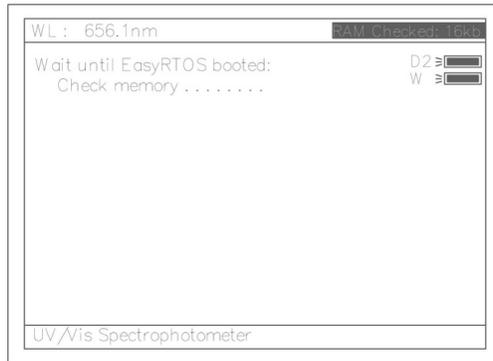
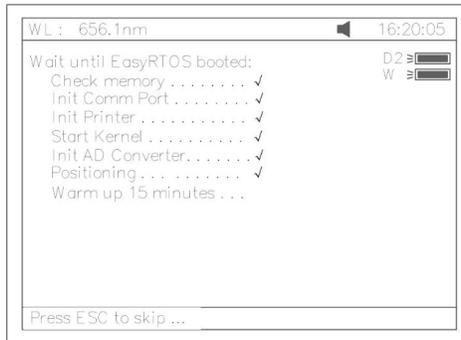

Fig 4
Fig 4A
1. The instrument will check memory first (Fig 4), please wait or press any key to skip this step ,after positioning filter, auto-cell changer(if installed) and D2/W lamps, the screen display as Fig 4A. 15